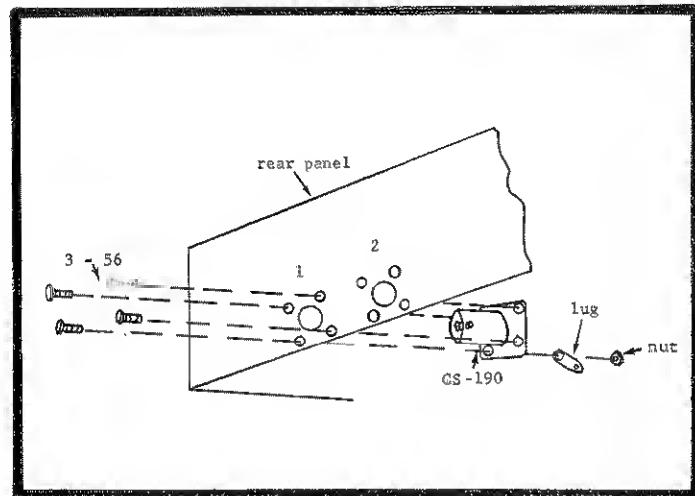

FIGURE 3. MHV Sockets Mounted to Model 246. The sockets, located in the rear panel, are used for remote programing.
a. Remove the plate over the punched holes on the Model 246 rear panel. These holes accept MHV connectors (No. UG-931/U, manufactured by most connector companies; Keithley part number CS-190). Mating connectors are UG-932/U (manufactured by most connector companies; Keithley part number CS-191). Use a lug to ground the shields of the cables to the Model 246 chassis as shown in Figure 3. Use 3-56 screws and nuts to fasten the connectors to the rear panel; if not available, 2-56 screws and nuts are sufficient. Relocate the ac wires at the inside rear panel so that the connectors can be installed.
1. Attach the center conductor of Cable #1 (end A) to the center pin of connector #2 (refer to Figure 3). Connect the shield of the cable to the ground lug.
- Remove the plate over the punched holes on the Model 246 rear panel. These holes accept MHV connectors (No. UG-931/U, manufactured by most connector manufacturers; Keithley part number CS-190). Mating connectors are UG-932/U (manufactured by most connector manufacturers; Keithley part number CS-191). Use a lug to ground the shield of the cables to the Model 246 chassis as shown in Figure 3. Use 3-56 screws and nuts to fasten the connectors to the rear panel; if not available, 2-56 screws and nuts are sufficient. Relocate the ac wires at the inside rear panel so that the connectors can be installed.
1. Attach either end of cable #3, the 7-inch cable, to connector #2 (Figure 3).
2. Attach either end of cable #4, the 8-inch cable, to connector #1 (Figure 3).